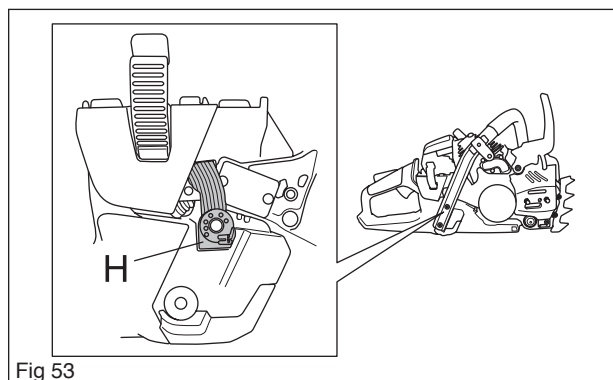

Fig 53
5. Loosen the movement limiter H. See figure 53.
4. Press the movement limiter H into position. See figure 53.